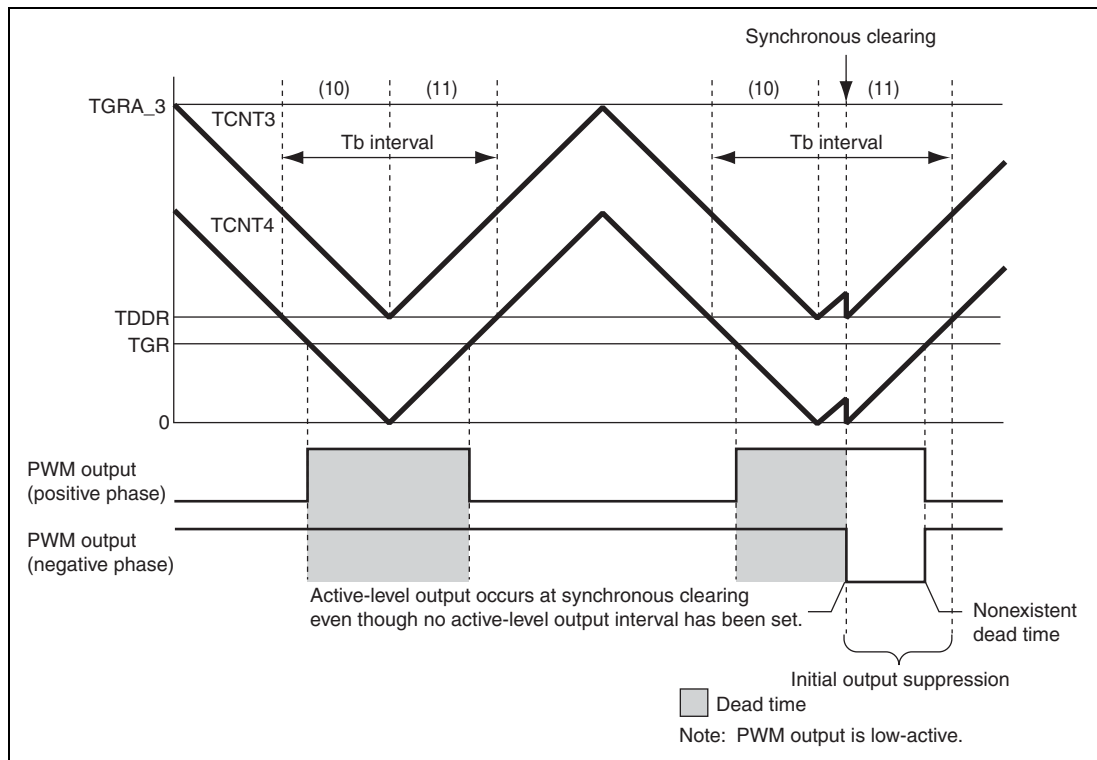

Figure 11.138 Condition (2) Synchronous Clearing Example
Condition (2): When synchronous clearing occurs within initial output suppression interval (10) or (11) and $TGRB_3 \leq TDDR$, $TGRA_4 \leq TDDR$, or $TGRB_4 \leq TDDR$ is true (figure 11.138).